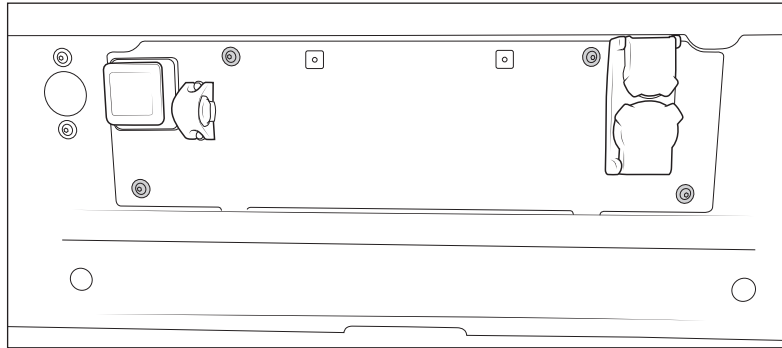

Figure 30
8. Install the license plate attachment plate using four of the supplier M6 x 1 button head screws and flange nuts. Two snap in plastic nuts are supplied for license plate mounting (fig. 30).